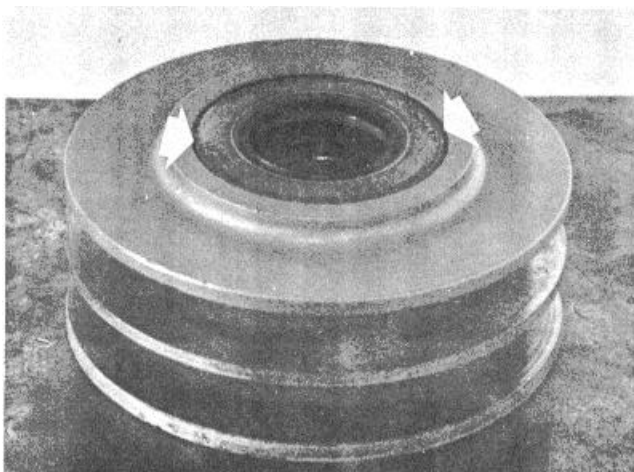

Fig. 8-24 (N10867). The Seal Installed Into The Pulley.
3. Install the retaining ring (6, Fig. 8-15) with the flat side of the retaining ring against the bearing. Install a new seal (7) so that the flat side of the seal is even with the hub of the pulley as shown in Fig. 8-24. Use the Part No. ST-1159 Seal Driver to install the seal.